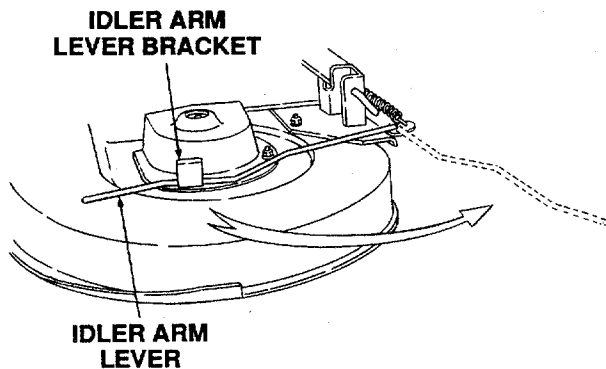

Figure 36
2. Lower the tractor implement lift handle to its lowest setting (adjust gauge wheels if necessary). Disengage the deck idler arm lever from its stop bracket and release the spring tension by rotating the lever out and rearward (Refer to Figure 36).